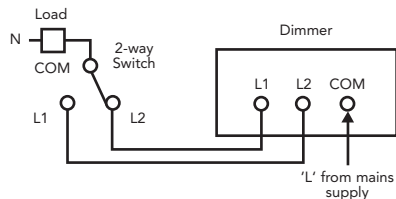

Figure 2 - typical two-way switch circuit
In a two-way installation, as shown in **figure 2**, only one
- With the push on/push off type of dimmer, as long as the rotary control knob is not turned, when it is pressed, the dimmer will switch on at the previously set light level. This is also true in the two-way set up described above and shown in **Figure 2**, even when operated by the remote switch.
3. Follow the installation instruction for a one-way switch as described in the previous section, except using the circuit shown in **Figure 2** for the terminal positions.